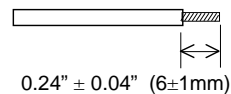

Figure 2-3-5 Wire preparation
(2) Control circuit wiring
- ① Wires connected to control circuit terminals must be AWG 20 (0.5mm²) shielded wire or twisted vinyl wire. Remove the sheath as shown in Figure 2-3-5 and then connect it.
- ② Keep the wiring of the main circuit, external relay sequence circuit and control circuit as far away from each other as possible. If they must be adjacent, cross them at right angles.
- ③ Use a twisted-pair shielded wire for long wiring distances.